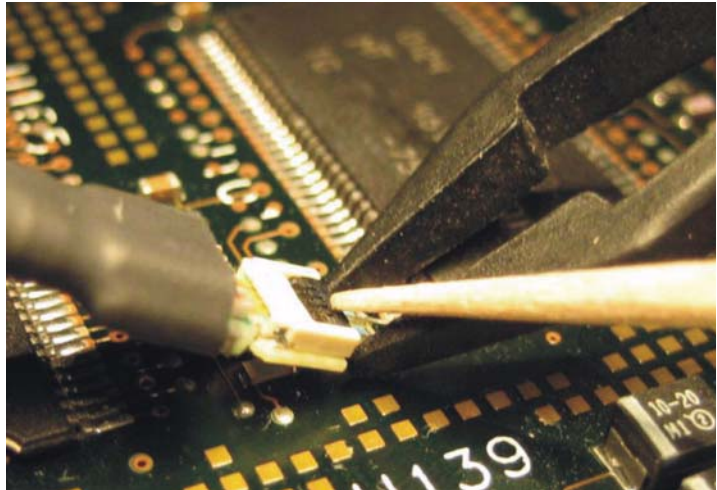

Figure 3-23 Use non-conductive tool to close the latch
- 6** Connect ZIF probe head to ZIF tip desired for measurement. When you need to make a measurement at a point where you've previously installed a ZIF tip, insure the latch on the ZIF tip is open, insert the contacts on the probe head into the ZIF socket, and then close the ZIF latch with a non-conductive tool. Depending on the positioning of the ZIF tip, you may need to support the body of the ZIF tip while closing the latch. This can be done by tweezers or other suitable tool by grabbing the PC board at the tip while the latch is being closed. If the circuit is live and there is concern about shorting anything out, use plastic or non-conductive tweezers. See Figure 3-23.